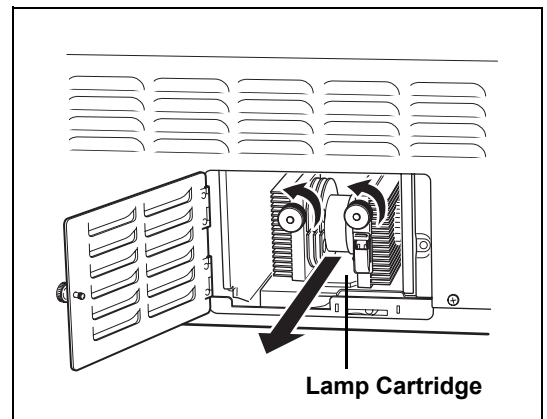

Figure 5.3
- 3 Turn the two screws at the top of the lamp cartridge counterclockwise and remove the lamp cartridge while supporting it with a hand. (Refer to Figure 5.3.)